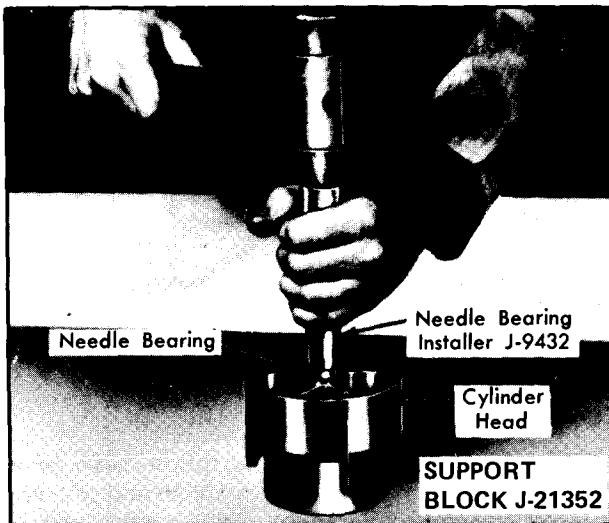

Figure 74—Installing Needle Bearing
16. Needle bearings may be removed if necessary by driving them out with special Thin-Wall Socket J-9399. Insert socket in hub end (inner side) of cylinder head and drive bearing out. To install needle bearing, place cylinder half on Support Block J-21352, and insert bearing in end of cylinder head with bearing **identification marks UP**. Use Needle Bearing Installer J-9432 and drive bearing into cylinder head (figure 74), until tool bottoms on the cylinder face.